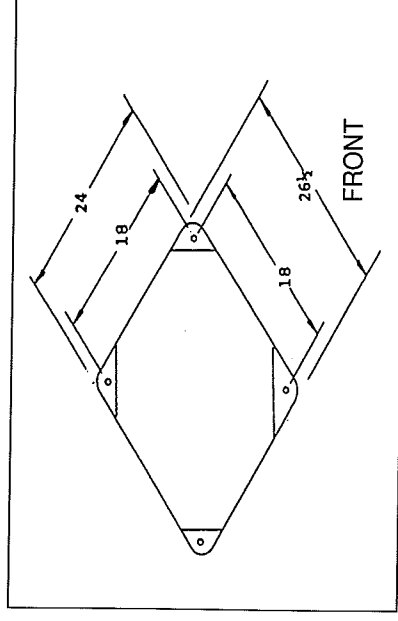

Figure 1
1. Locate the (4) foundation holes inside the base in all four corners. The machine is designed to be
secured to the floor, See Fig. 1. Arrange on 18 inch square pattern, (4) 3/8" diameter bolts or studs.